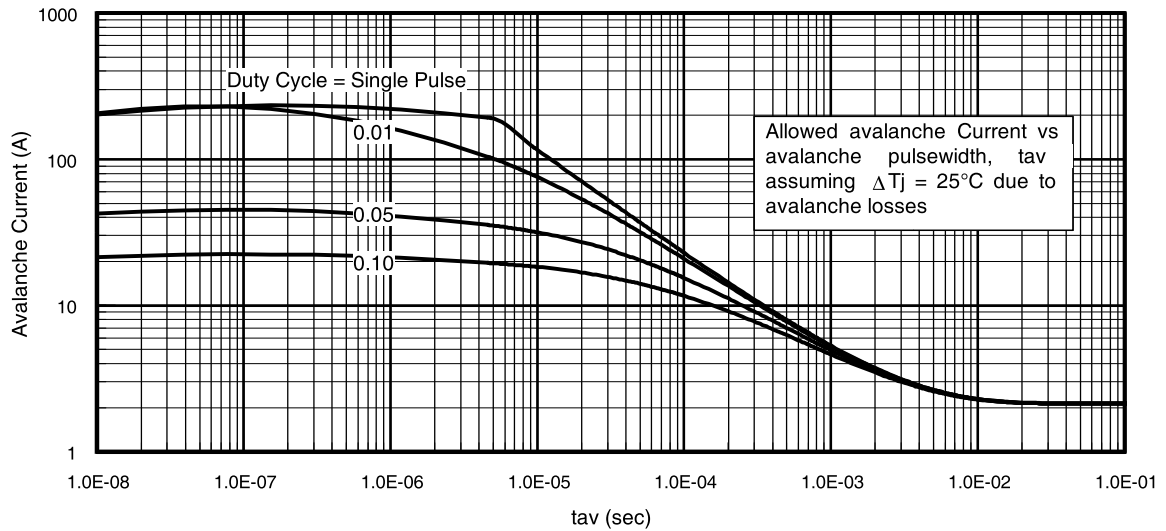

Fig 15. Typical Avalanche Current Vs.Pulsewidth
Notes on Repetitive Avalanche Curves, Figures 15, 16:
7. ΔT = Allowable rise in junction temperature, not to exceed T_{jmax} (assumed as 25°C in Figure 15, 16).